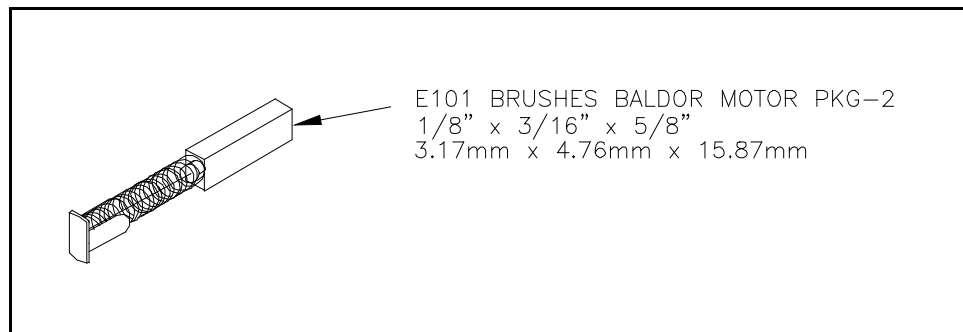

Figure 11. Replacement brushes
- 7.6.9 The brushes will stop working when they are about 1/4" long. If the length of the carbon brushes is less than 3/8" or the brushes are unequal lengths, replace **BOTH** brushes as a set. Use the brushes supplied in the accessory kit or order Wells part number **E101 BRUSHES BALDOR PKG-2**. See Figure 11.